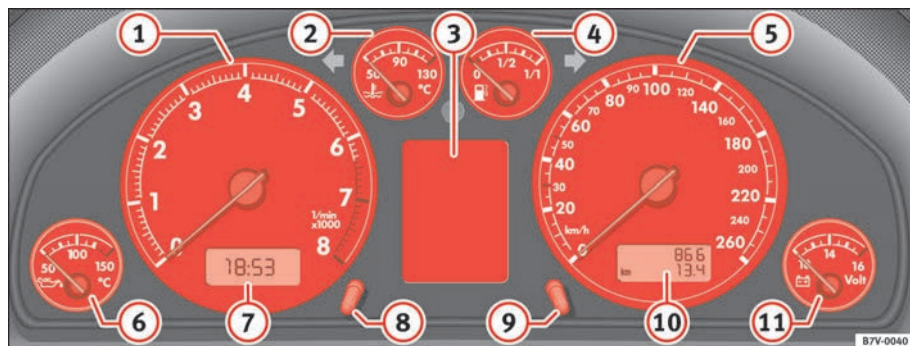

Fig. 44 Detailed view of dash panel instrument panel
If, for example, the needle is directly over the 2, this corresponds to an engine speed of 2000 rpm (revolutions per minute) ⇒ fig. 44 ①.
- Turn the setting knob ⇒ page 64, fig. 44 (8) briefly in an anti-clockwise direction to move the hour forward by one hour or
The top counter of the mileage display ⇒ page 64, fig. 44 (10) registers the total mileage covered by the vehicle.
The lower counter registers the short journeys. The last digit indicates steps of 100 metres. The trip recorder counter may be reset by the reset button ⇒ page 64, fig. 44 (9). ■
The voltmeter ⇒ page 64, fig. 44 (11) indicates the voltage of the vehicle electrical system. The voltage of the electrical system should normally be
The service display is shown either on the mileage display ⇒ page 64, fig. 44 (10) or in the display⁷⁾ in the combi-instrument ⇒ page 64, fig. 44 (3).